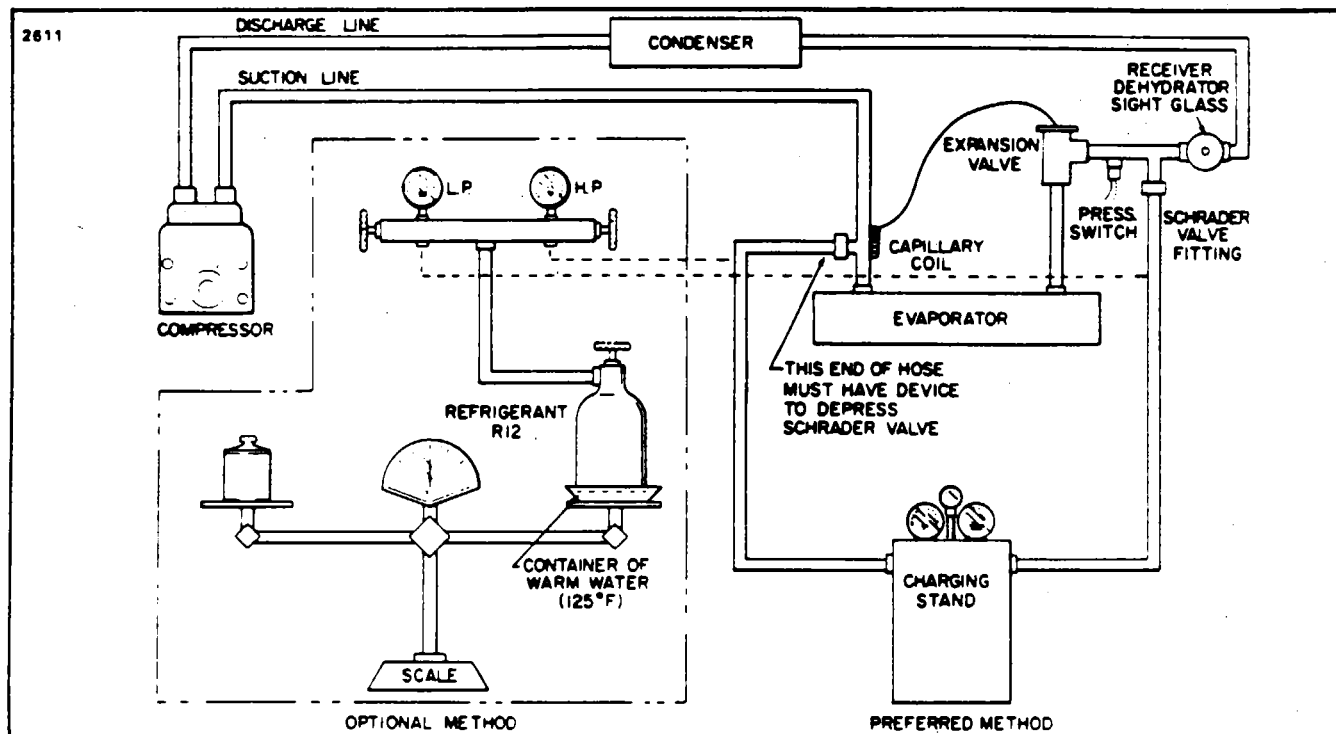

Figure 21-10. Charging Hookup
1. With the system discharged and evacuated, proceed to hook-up the charging stand. (Refer to Figure 21-10.)
1. With the system evacuated as outlined in Evacuating the System, connect the refrigerant charging hose to the manifold (refer to Figure 21-10) and purge the charging hose of air.
2. Connect a charging hose to a refrigerant cylinder and also to the Schrader valve fitting on the suction line. (Refer to Figure 21-10.)